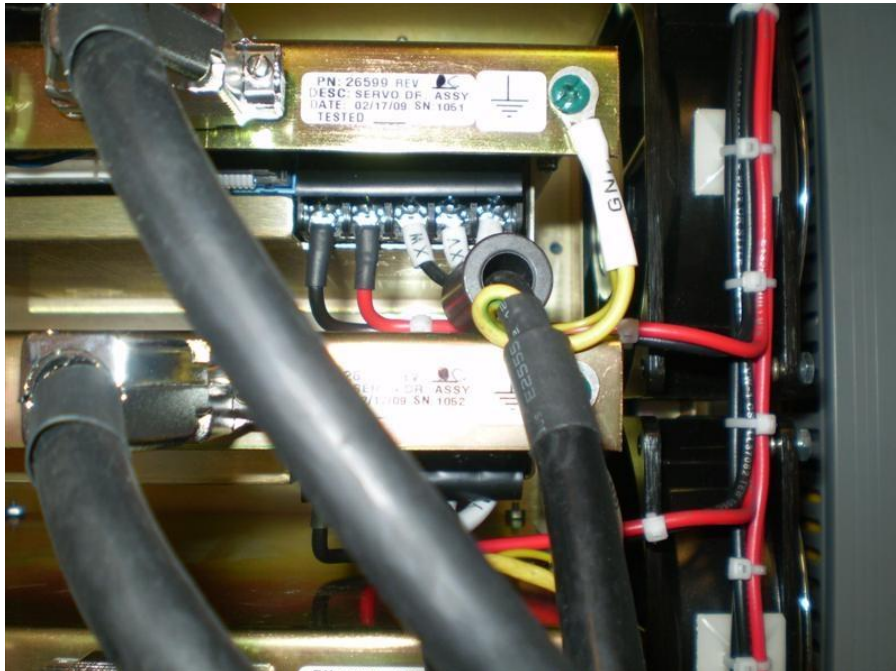

Figure 6.2b
- b. Attach wires identified as "W", "V" and "U" (from left to right) as shown in figure 6.2b.
- c. Attach the Black and Red wires as shown in figure 6.2b.